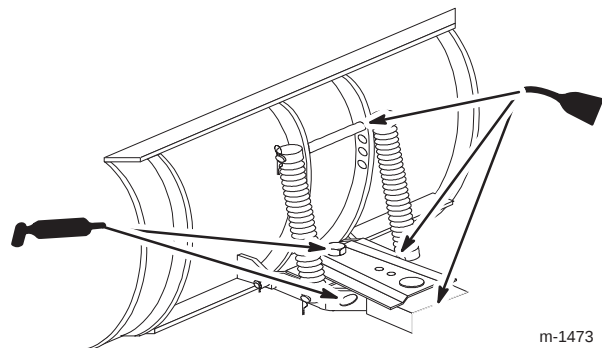

Figure 22
- Clean the area around the channel pivot with a rag. Apply grease to the pivot bolt, frame and sector (Fig. 22).
4. Place a few drops of oil on all movable linkages (Fig. 22).